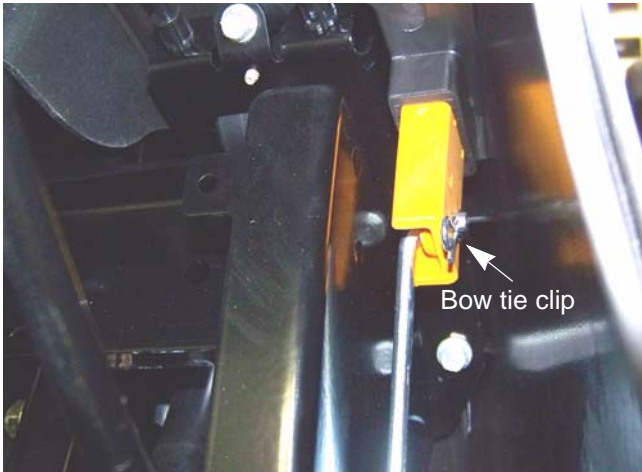

Figure 4.27
3. Remove the bowtie clip that holds the control rod to the cruise/parking brake lever. See Figure 4.27.